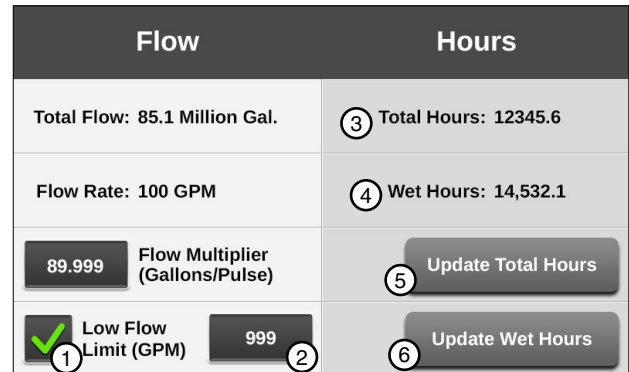

Figure 63-1 1. Low Flow Limit Checkbox 2. Low Flow Limit 3. Total Hours Status 4. Wet Hours 5. Update Total Hour 6. Update Wet Hours
A Low Flow system fault can only occur if the system is above the low pressure setting, the Low Flow Limit feature is on, and a flow meter is installed. Refer to Figure 63-1.
1. Push **Menu, System, Data,** and **Flow/Hours** to display the Flow/Hours screen. Refer to Figure 63-1.